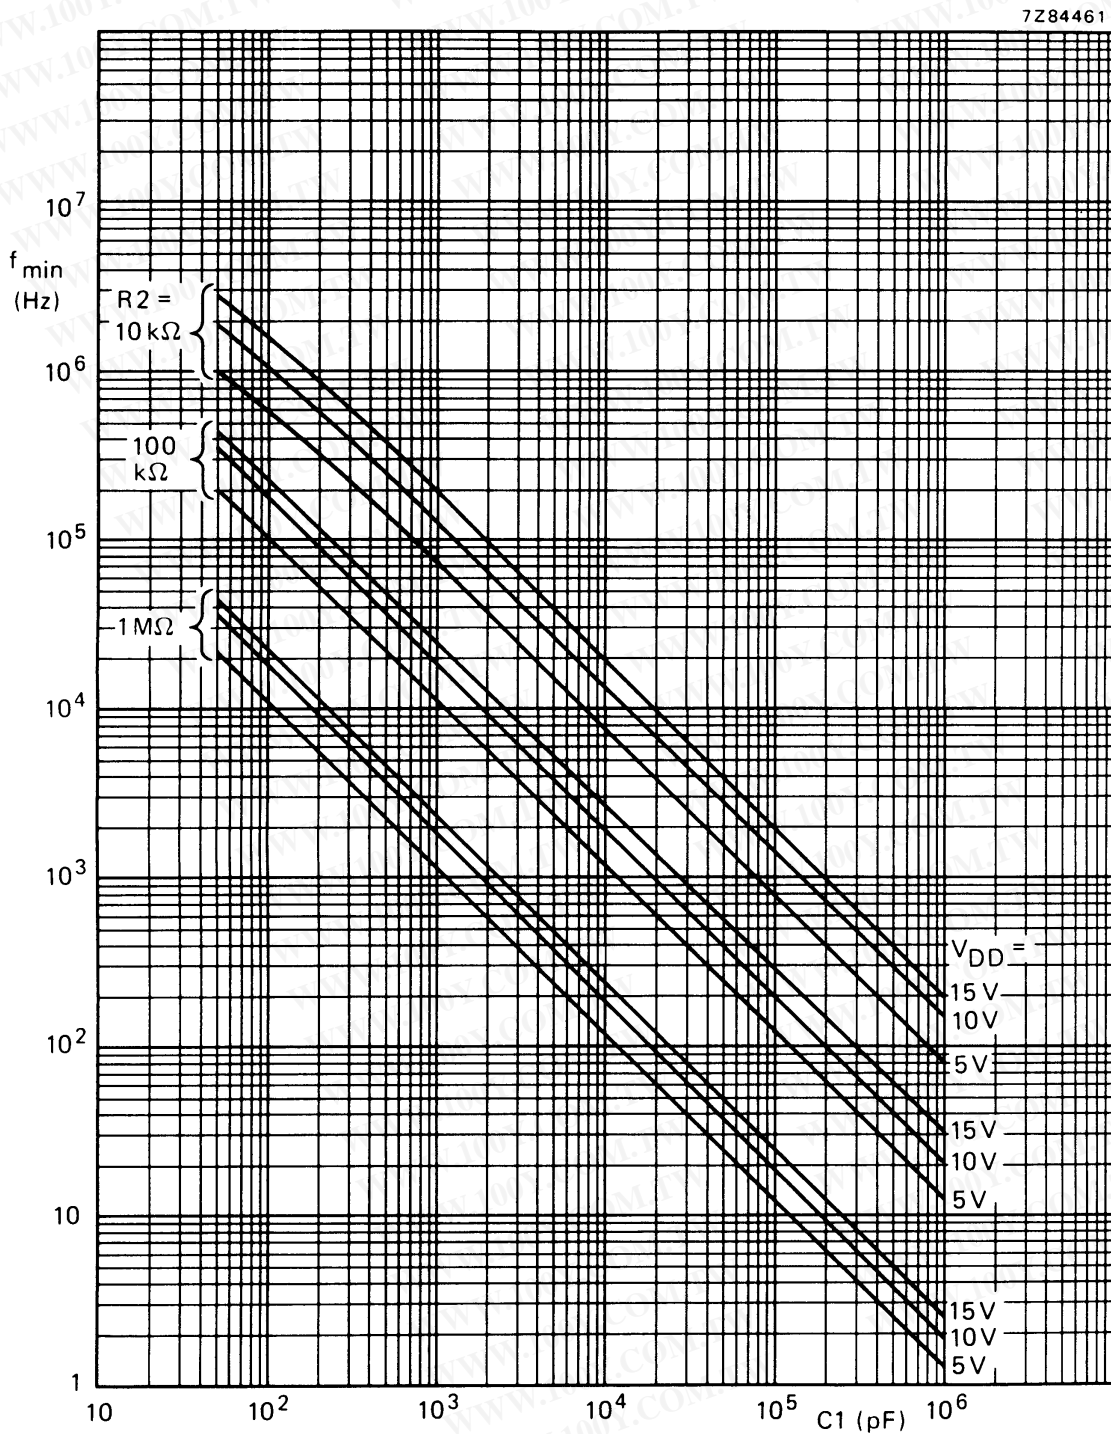

Fig.8 Typical frequency offset as a function of capacitor C1; $T_{amb} = 25\text{ }^{\circ}\text{C}$; V_{COIN} at V_{SS} ; INH at V_{SS} ; $R1 = \infty$.
- Given f_o and f_L : calculate f_{min} from the equation $f_{min} = f_o - f_L$; use f_{min} with Fig.8 to determine R2 and C1; calculate $\frac{f_{max}}{f_{min}}$ from the equation $\frac{f_{max}}{f_{min}} = \frac{f_o + f_L}{f_o - f_L}$; use $\frac{f_{max}}{f_{min}}$ with Fig. 9 to determine the ratio R2/R1 to obtain R1.
- Given f_{min} and f_{max} : use f_{min} with Fig.8 to determine R2 and C1; calculate $\frac{f_{max}}{f_{min}}$; use $\frac{f_{max}}{f_{min}}$ with Fig.9 to determine R2/R1 to obtain R1.